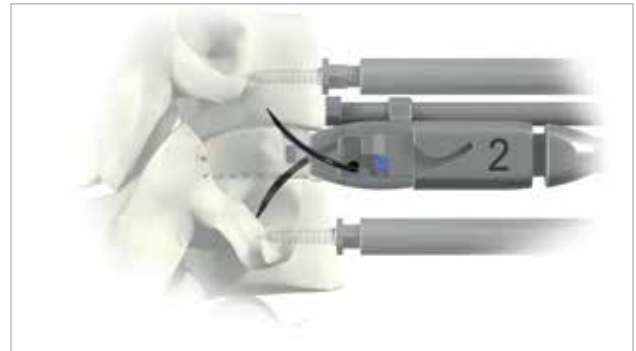

Figure 15b
- Insert the starter awl plate into the inferior slot of the ROI-C implant holder head. If resistance is felt during insertion into the slot, remove the starter awl plate and repeat the step. Use thumb pressure to bring the starter awl plate into contact with the bone. Start the insertion with three to four mallet impactions on the proximal end of the starter awl impactor, or until the starter awl plate is inserted roughly 50% of the way into the vertebral body (**Figure 15b**).